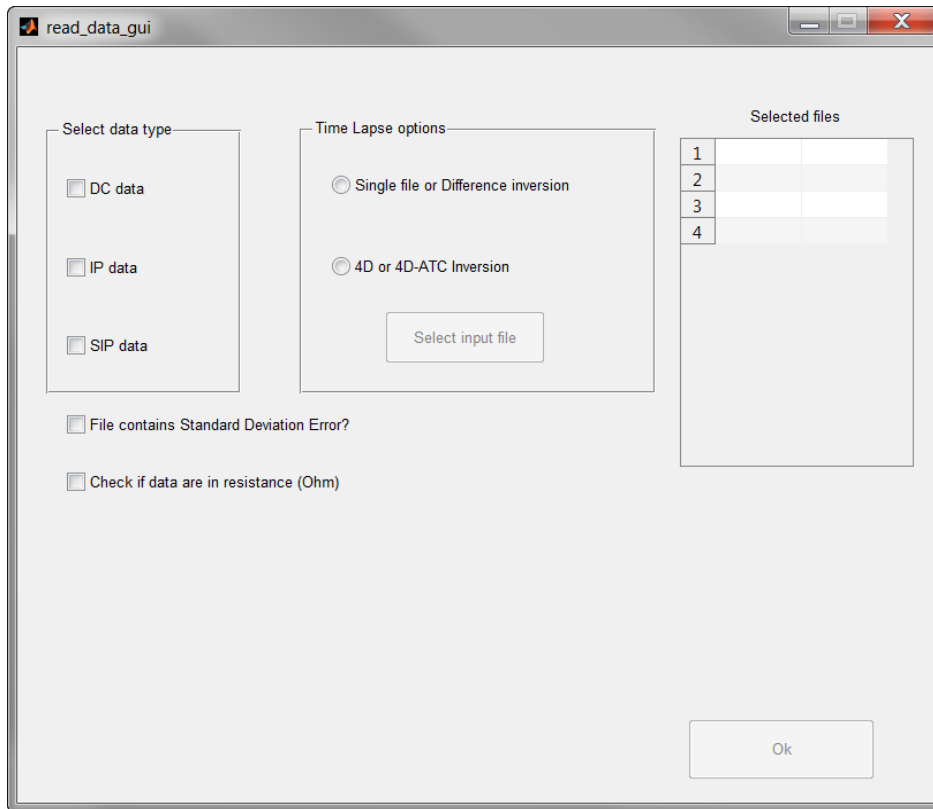

Figure 2: Select Data File dialog
- 2) Open File Dialog box opens (figure 2).